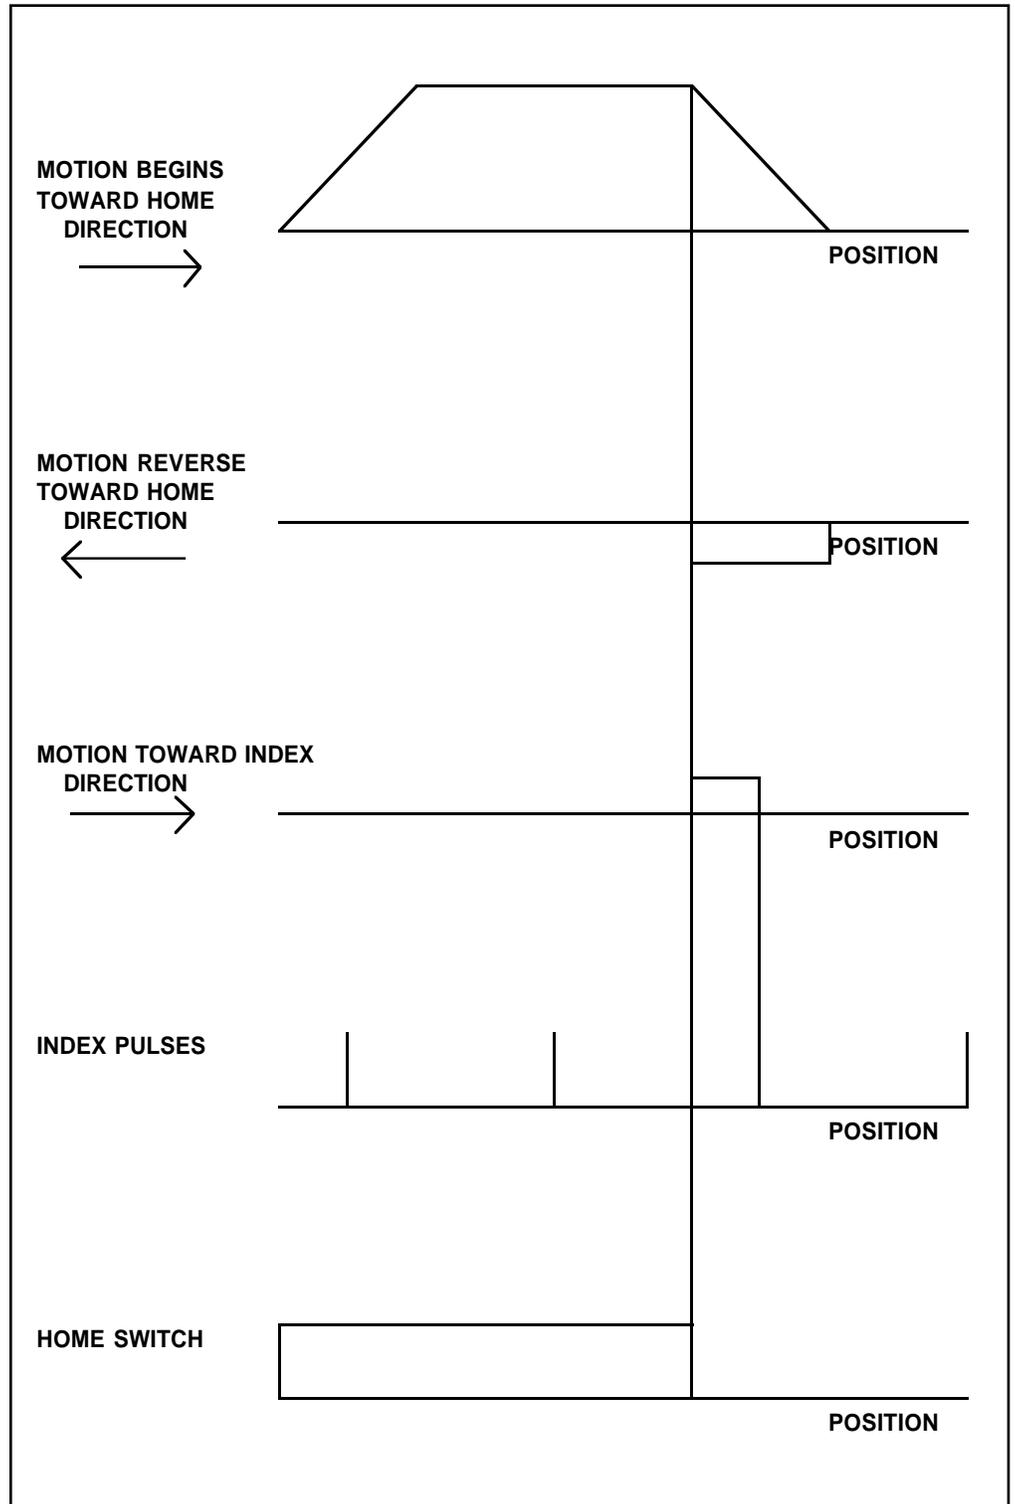

Figure 8.7 - Motion intervals in the Home sequence
The Find Edge (FE) instruction is useful for initializing the motor to a home switch. The home switch is connected to the Homing Input. When the Find Edge command and Begin is used, the motor will accelerate up to the slew speed and slew until a transition is detected on the Homing line. The motor will then decelerate to a stop. A high deceleration value must be input before the find edge command is issued for the motor to decelerate rapidly after sensing the home switch. The velocity profile generated is shown in Fig. 8.7.